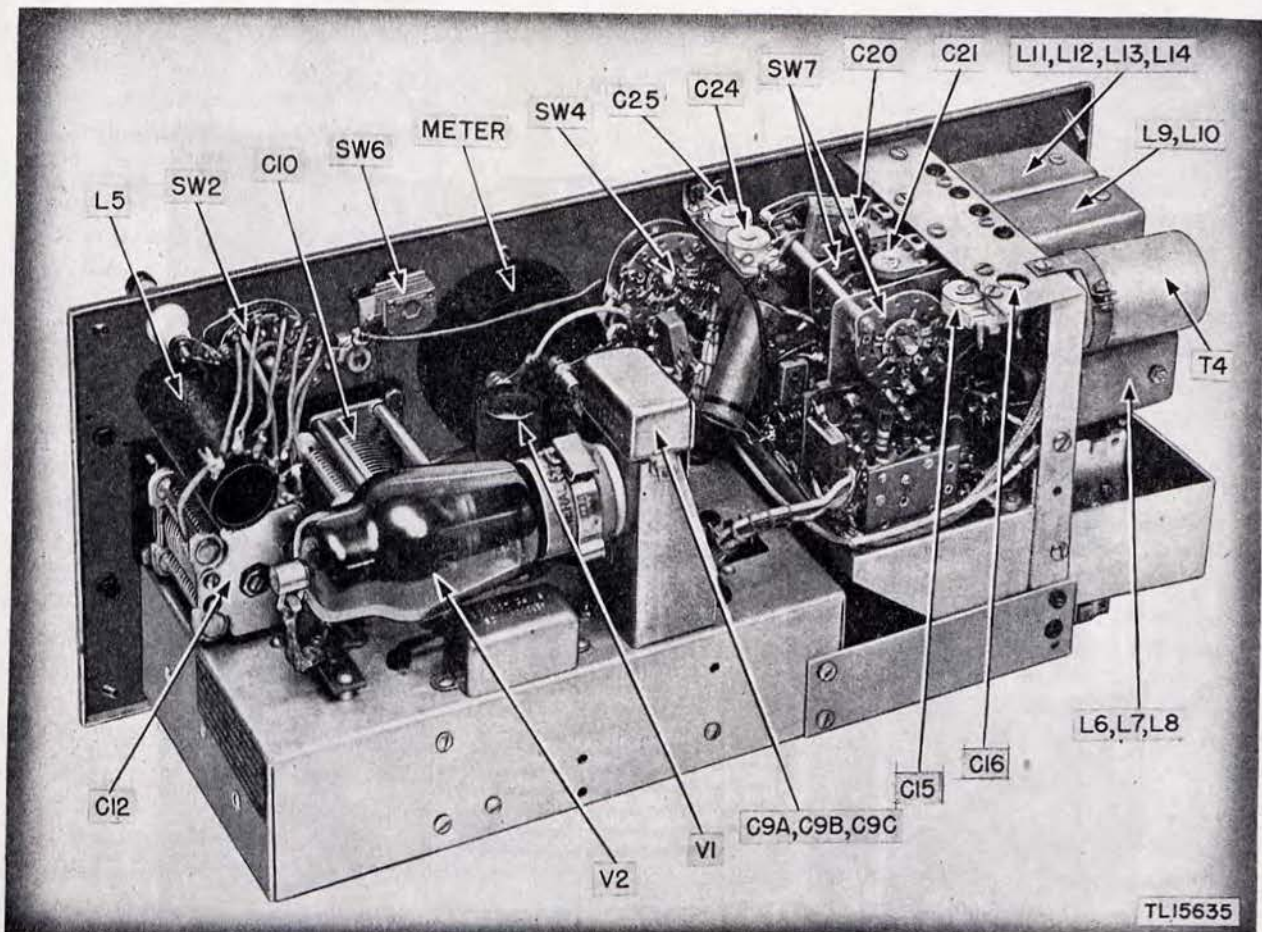

Figure 16. Rear view of receiver-transmitter chassis, showing location of parts.
mers. All adjustments are made with the output of the signal generator connected to the ANT (through a 0.05 series capacitor) and GND posts in the upper right-hand corner of the front panel, and with the output meter connected as described in subparagraph *a* above. For location of oscillator trimmer adjusting screws refer to figure 16.
e. R-f Amplifier Alignment. With the output of the signal generator connected to the ANT and GND posts of the receiver, and with the output meter connected as above, align the r-f stage in accordance with the following procedure. For location of r-f trimmer adjusting screws refer to figure 16.
(1) R-F ALIGNMENT FOR LOW BAND.